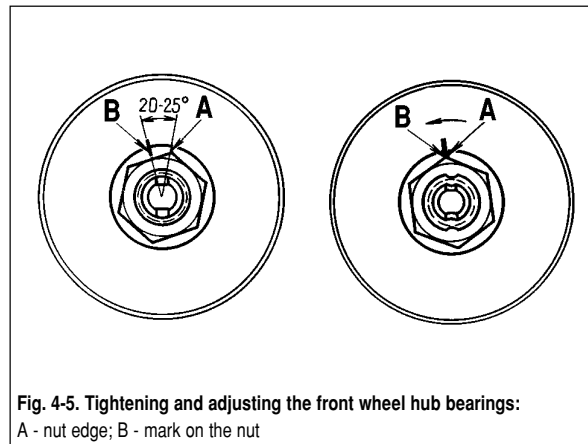

Fig. 4-5. Tightening and adjusting the front wheel hub bearings:
- make a mark **B** on the washer (fig. 4-5), then undo the nut by 20-25° until the first edge will meet the **A** mark;